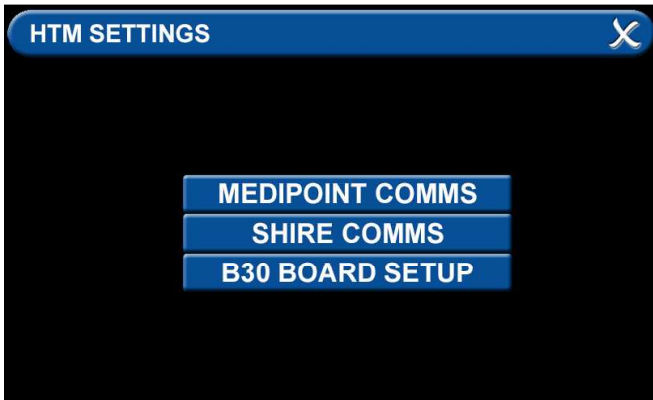

Figure 154: Medipoint Network Setup
- Press the B30 BOARD SETUP tab (Figure 154).